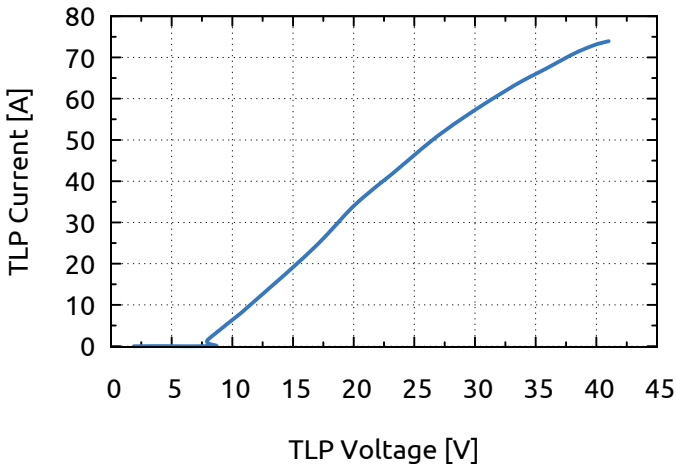
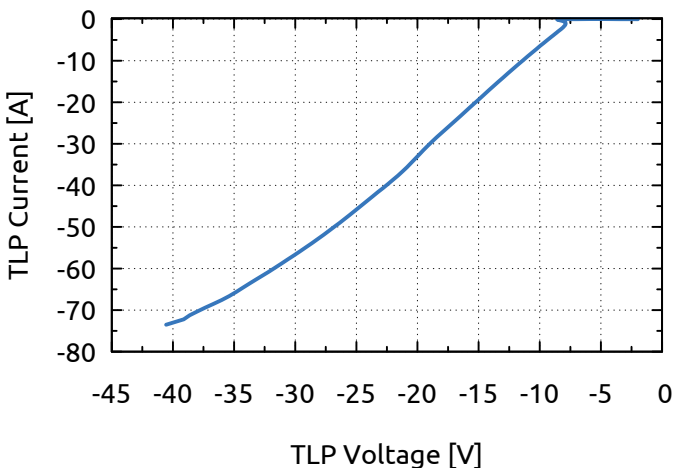
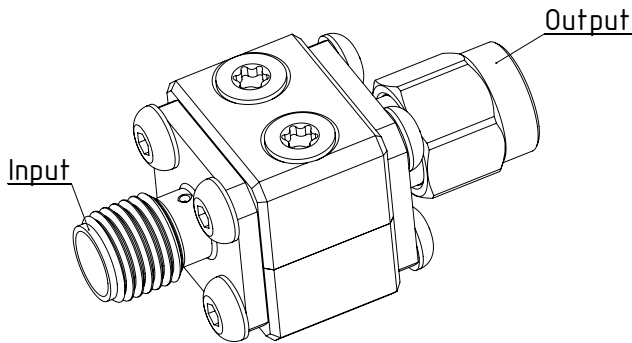
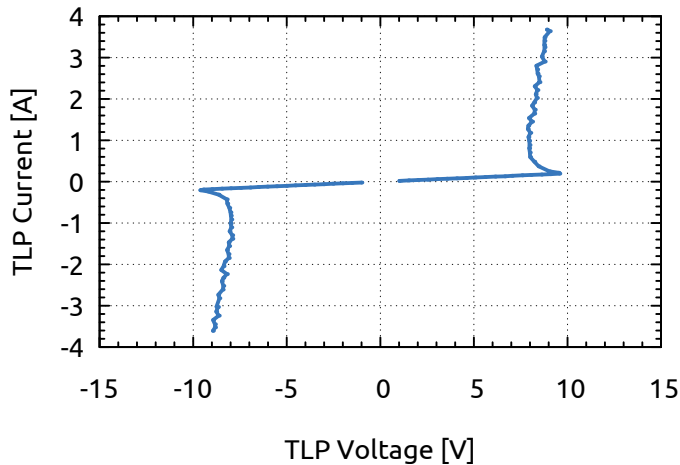

Figure 4: Typical positive clamping characteristic. TLP parameter:  $50 \Omega$ , 100 ns pulse width, 0.6 ns rise time, 70 ns to 90 ns averaging window.
Figure 5: Typical negative clamping characteristic. TLP parameter:  $50 \Omega$ , 100 ns pulse width, 0.6 ns rise time, 70 ns to 90 ns averaging window.
Figure 8: TVS-70MF-10 overvoltage protection with 50 Ohm SMA(female) input and SMA(male) output.
Figure 11: TLP test result with setup shown in Fig. 9
Fig. 4 and Fig. 5 show the high current clamping characteristics of the TVS-70MF-10 for positive and negative polarities. The device can absorb energies up to  $\pm 25$  kV according IEC 61000-4-2 with  $R = 330 \Omega$ ,  $C = 150$  pF at contact discharge. Please note, that at  $>100$  ns TLP pulse width the energy absorption capability of the device is decreased significantly.
The TVS-70MF-10 overvoltage protection device shown in Fig. 8 is used to protect the sensitive high-speed sampling oscilloscope input from overload in case of a possibly error in the TLP measurement set-up. The TVS-70MF-10 is based on a bi-directional ultra-low capacitance transient voltage suppressor (TVS) diode. It protects the sensitive oscilloscope input against overload and destruction. In general, oscilloscopes from different vendors have different input maximum ratings of pulsed overstress at ESD/EOS condition. Therefore, HPPI cannot specify or guarantee any resulting level of protection. The resulting level of protection may be evaluated together with the oscilloscope vendor using the clamping characteristic of the TVS-70MF-10 shown in Fig. 4 and Fig. 5. The TVS-70MF-10 can be used from DC up to 6 GHz. Applying a DC voltage exceeding  $\pm 5$  V has to be absolutely avoided.
- Compare the measurement result with Fig. 11.
If the measurements according the above given description and those shown in Fig. 4, Fig. 5 and Fig. 11 differ significantly, please raise query with HPPI.